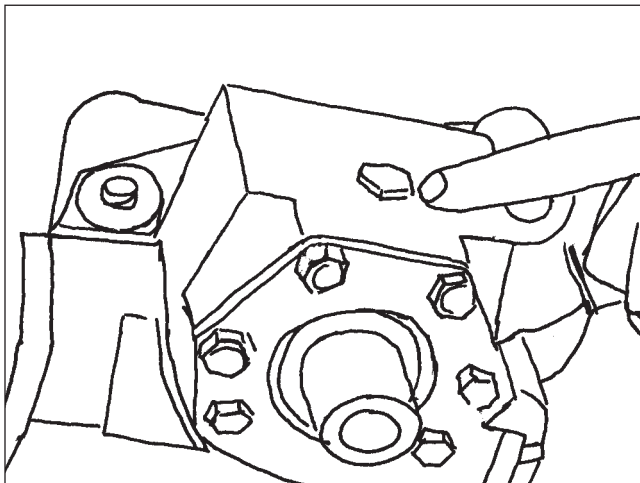

Figure 34
6. Locate the bleeder screw in the plug located on the sector shaft bore (**Figure 34**).